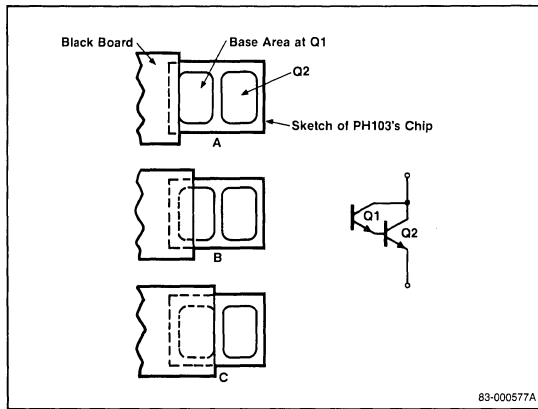

Figure 3. Masking (Shade) Effect
The shape and material used in manufacturing photo interrupters are major design considerations. The primary consideration is the relationship of output current of the photo transistor to the proportion of the sensitive area being masked. Figure 3 illustrates the characteristic curve of the PH103 with the surface views and schematic. As shown, just a 0.3mm displacement of the interrupter with respect to the detector die will shift the output level from 99% (A) to 10% (C).